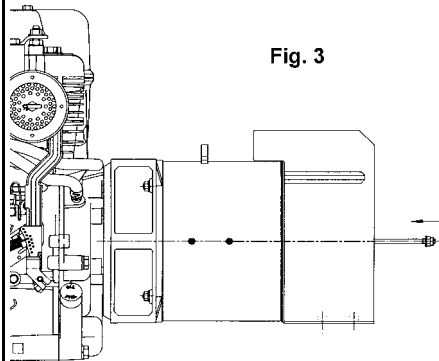

Fig. 3
-) insert the central bolt into its housing and screw the nut (figure 3)
(Abb. 3 Seite 37)